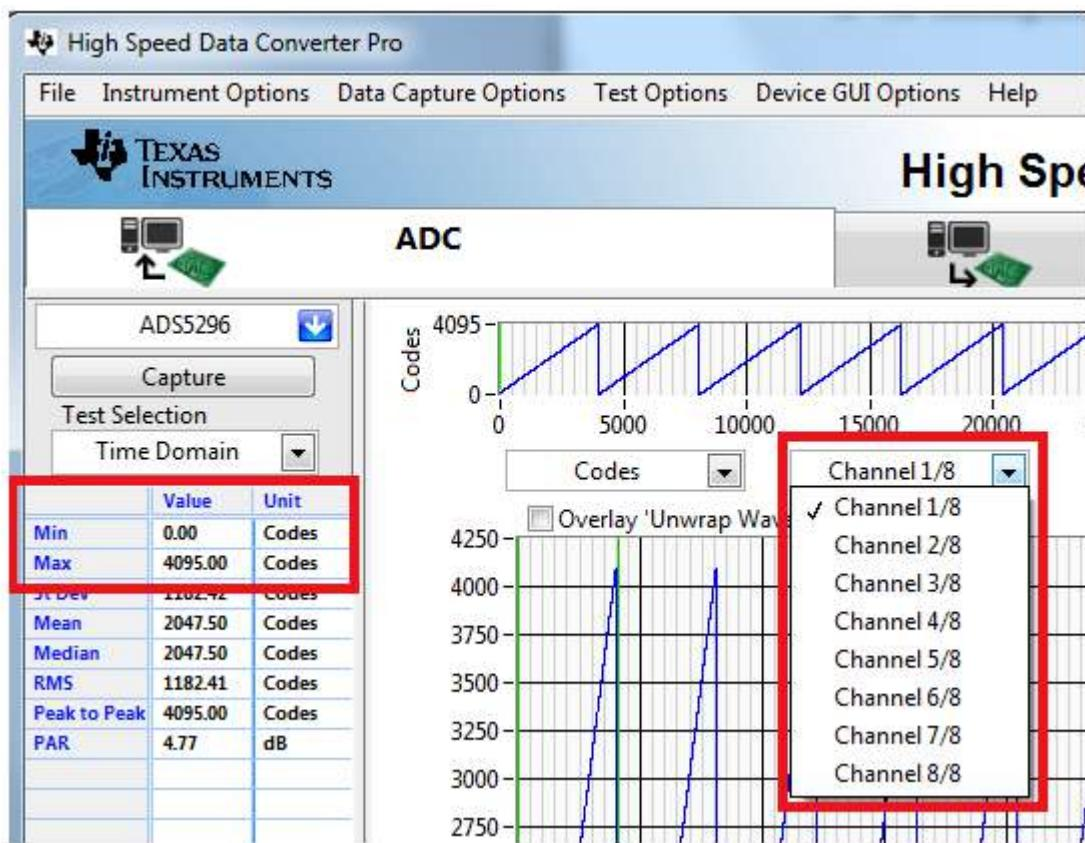

Figure 34. RAMP Capture by Channel
4. By default, *Channel 1/8* is the first channel displayed. Use the drop-down menu shown in Figure 34 to view all 8 channels and confirm that a saw tooth waveform has been captured. Also confirm, in the menu to the left side, that the min code is 0 and the max code is 4095, corresponding to a 12-bit ADC.